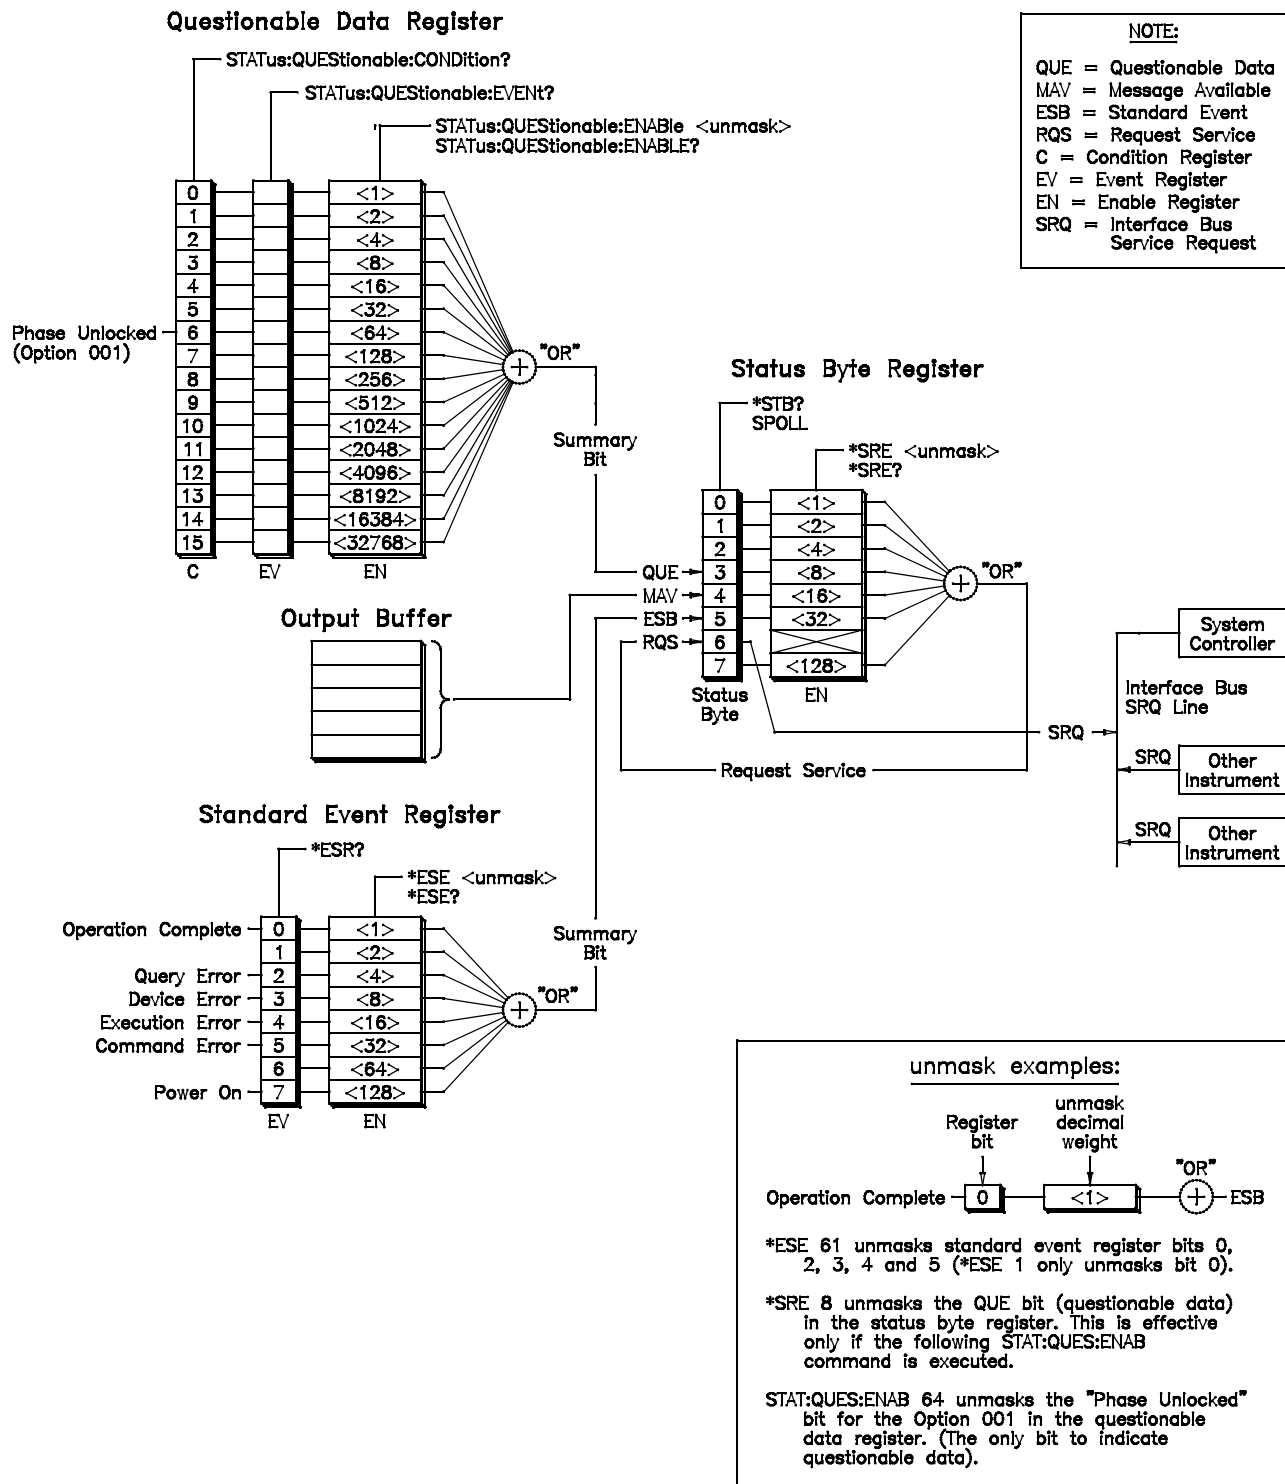

Figure 3-1.
- The STATus system contains four registers, two of which are under IEEE 488.2 control; the Standard Event Status Register (\*ESE?) and the Status Byte Register (\*STB?). The Operational Status bit (OPR), Service Request bit (RSQ), Standard Event summary bit (ESB), Message Available bit (MAV) and Questionable Data bit (QUE) in the Status Byte Register (bits 7, 6, 5, 4 and 3 respectively) can be queried with the \*STB? command. Use the \*ESE? command to query the "unmask" value for the Standard Event Status Register (the bits you want logically OR'd into the summary bit). The registers are queried using decimal weighted bit values. See Figure 3-1 on page 119.